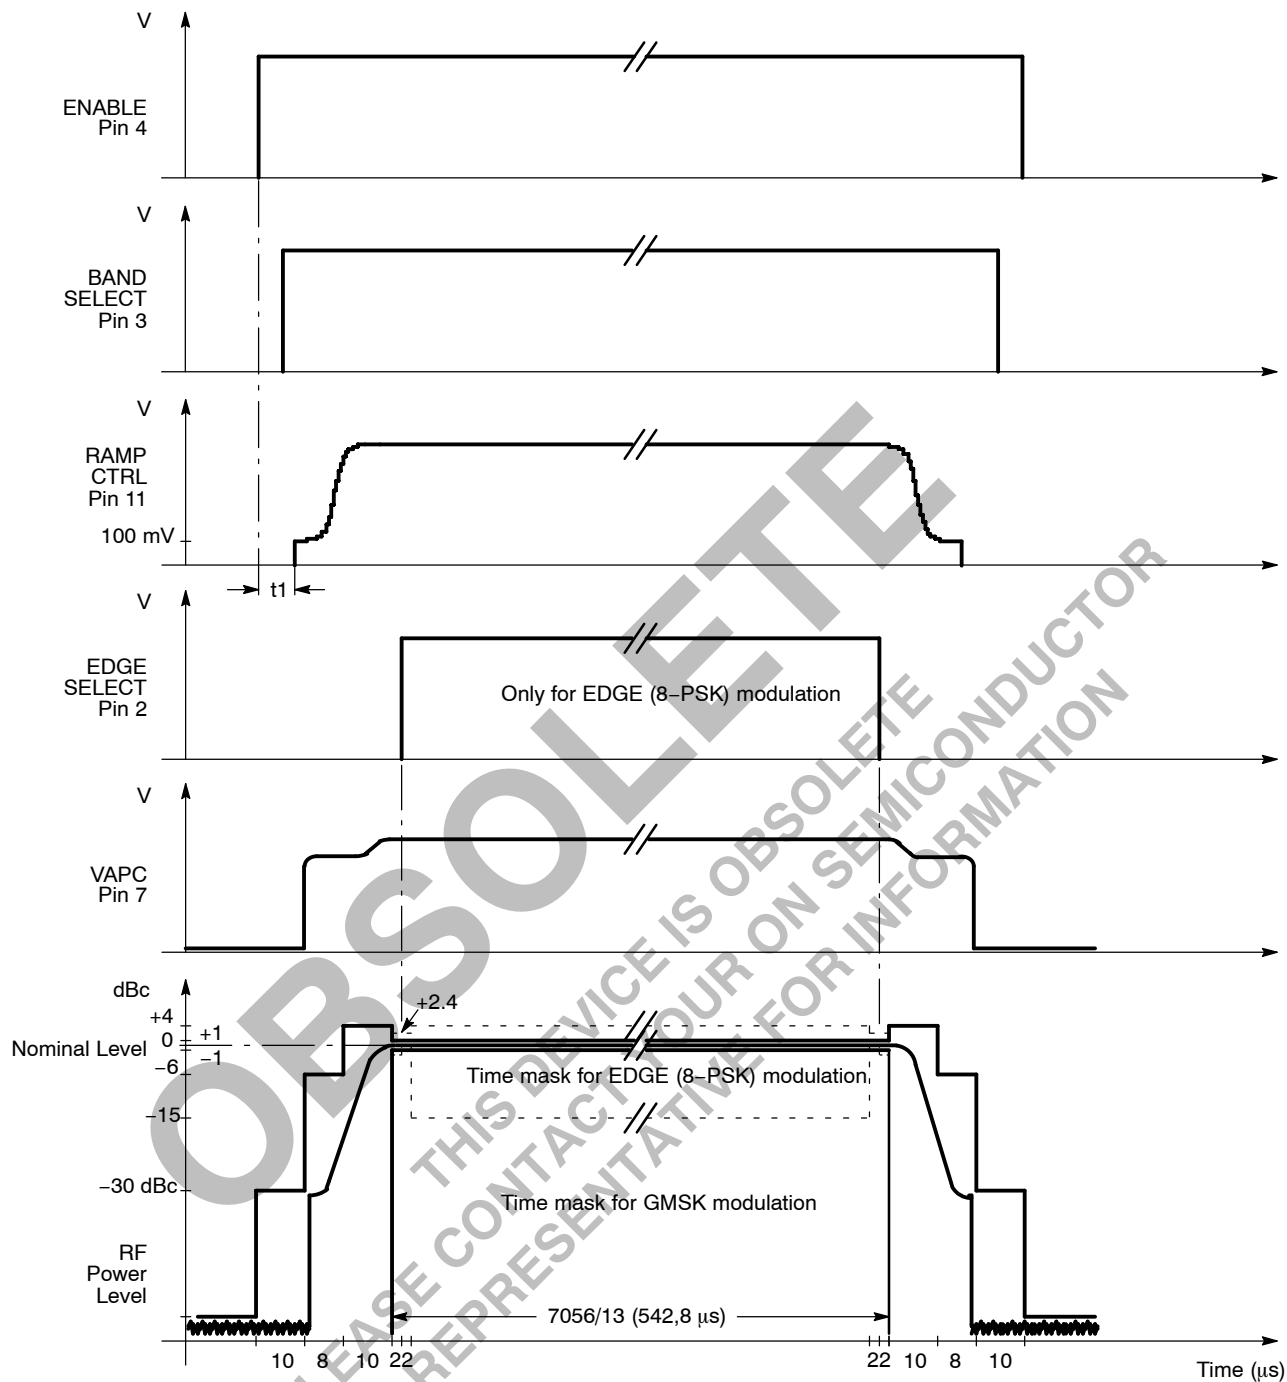

Figure 20. Typical Timing Chart for GSM and EDGE Application
9. Time necessary for internal calibration, see "t1" on Figure 20. Typical Timing Chart for GSM and EDGE Application.
It performs the amplitude demodulation of applied RF input signal. Its dynamic range fully covers the different GSM power levels. The requested biasing signals are internally generated. The power detector is designed to fulfill the GSM 05.05 standard providing good peak power control over a 40 dB linear range. The 43 dB detection range allows the Figure 20 template to be respected during ramp-up and ramp down. The very low out-of-burst noise floor can be achieved by apply level from DAC lower than 75 mV to RAMP CTRL. The detector is designed to operate with a RF coupler providing a 18 dB attenuation in GSM mode and a 14 dB attenuation in DCS/PCS is recommended by Murata, for example. 8 bits DAC may be used as Reference signal generator. Nevertheless such low resolution DAC may result in a loss of accuracy at very low power levels (beginning of the ramp). The RF GSM and RF DCS inputs are both 50 Ω matched with DC coupling capacitor and provide a very good Voltage Standing Wave Ratio (VSWR). Linearity detection versus frequency is there by excellent and could allow use of a frequency-correcting table. Nevertheless the coupler may have coupling factor variation and downgraded the linearity.